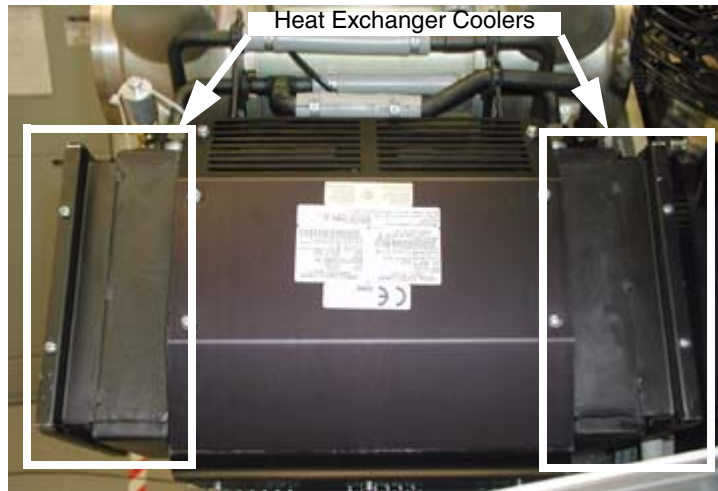

Figure 2 - Heat Exchanger Coolers
The Heat Exchanger coolers are located on the two ends of the heat exchanger. See Figure 2, below. There are eight (8) screws that mount the coolers (four (4) each), and each will be verified during this procedure.